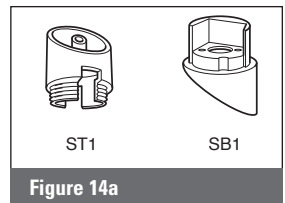

Figure 14a
**b.** You will install a top stair connector (ST1) instead of the top connector (T1) to the top rail. (Figure 14a)